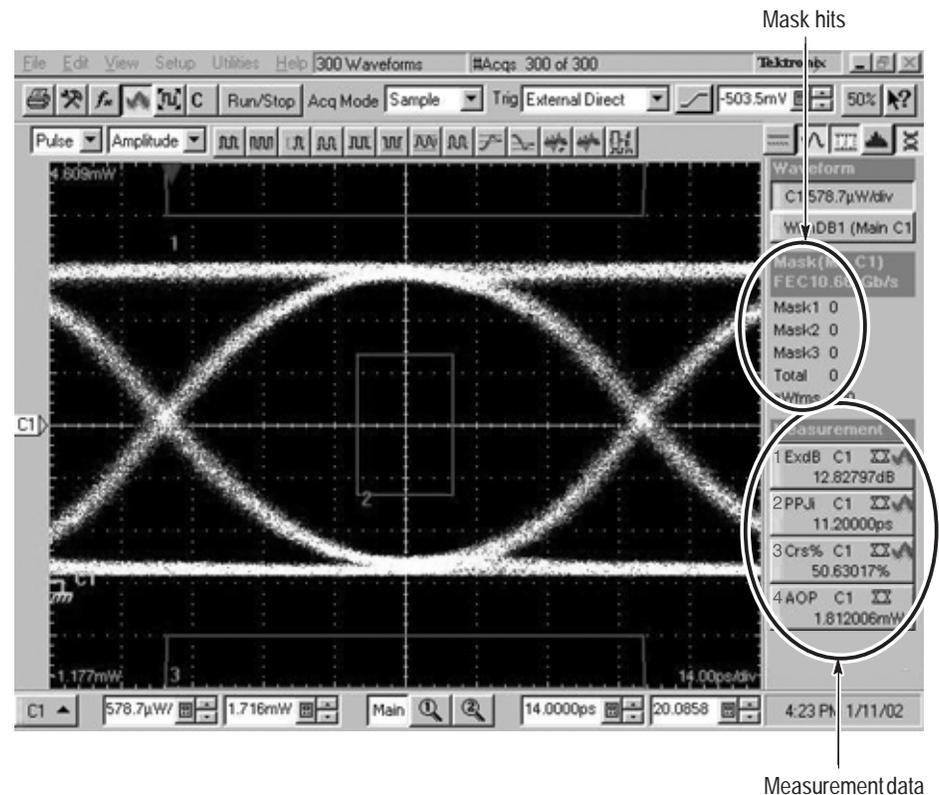

Figure 17: Measurements taken from the eye pattern
The oscilloscope displays an eye pattern as shown in Figure 17 on page 47.
The oscilloscope displays an eye pattern as shown in Figure 17.
3. Record the measurement data from the oscilloscope display (see Figure 17), in the first row of Table 18 (2.488 Gb/s, 1.5 V). Check that the data meets the limits in Table 17.